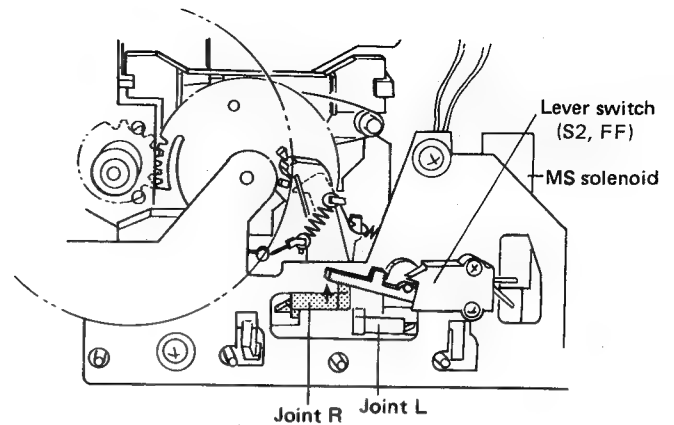

Fig. 13-9 FF (REW), MS operation 1 (Lever switch ON)
FF (or REW) Operations (Fig. 13-9 – 13-11)
1. When the FF (or REW) button is pressed, joint R (L) moves in the direction of ①, pressing down (① direction) on the FF (REW) action plate. At the same time, the lever switch is thrown to the ON position (Fig. 13-9, 13-10).
2. Next, the brake-plate is pressed down by the FF (REW) action plate, and at this time the driving arm is forced in the ③ (or ④) direction to start the reel base rotating in the FF (or REW) mode.
3. At the same time, gear lever C moves in the ⑤ direction and the head base (HB) lock lever moves in the ⑥ (or ⑦) direction. (This procedure also applies to MS operations).